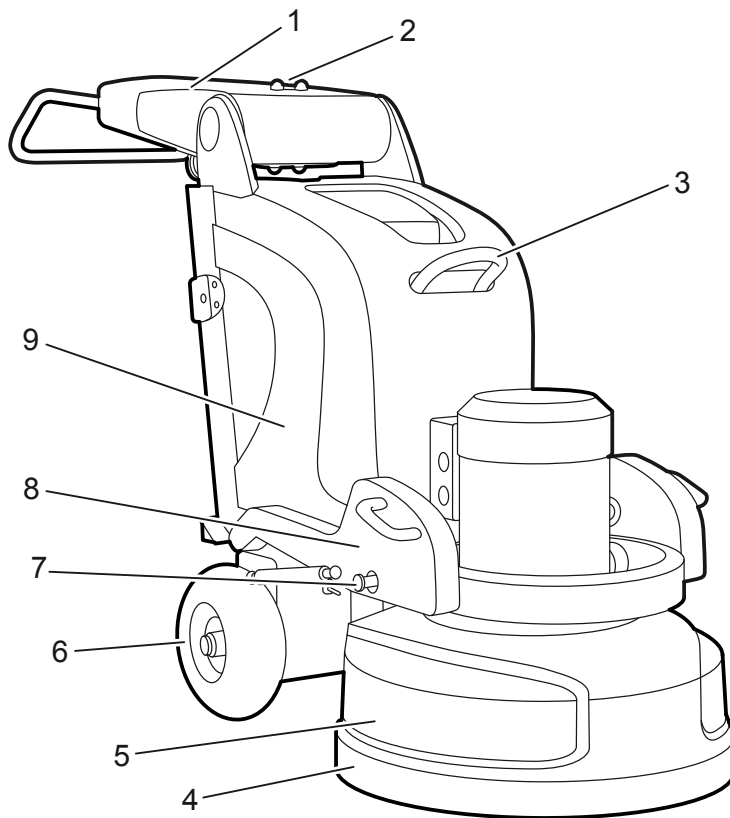
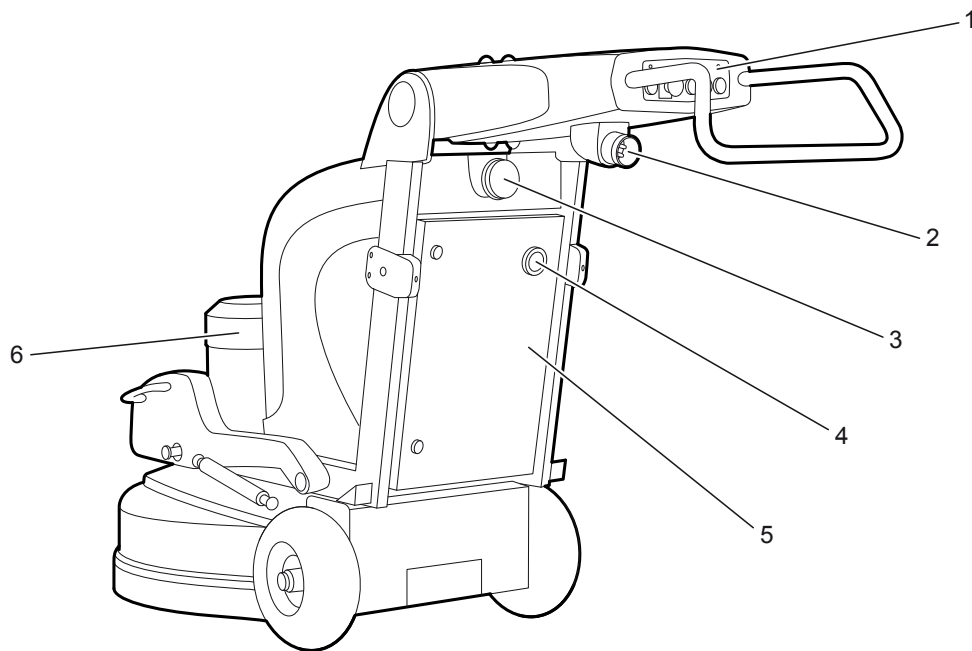

Figure 3-1 The front of the machine
Figure 3-2 The machine's rear
The machine is constructed from a number of main components, see Figure 3-1 on page 10 and Figure 3-2 on page 11. As it is equipped with four grinding discs, this means that it is balanced and easy to handle. It also provides more effective stripping with better grinding results. It also has an integrated weight system for adjusting the grinding pressure, which makes the machine perfect for those with high demands for versatility.
1. **Power** - Standby indicator: Indicates that the machine's functions have been activated. Shines with a green light when the start key (7) is turned to the right "On".
3. **Reset** - Resetting the electronics: If the machine experiences an error, it can be reset by pressing and holding the button in for two seconds. Any error code is shown on the display in the electrical cabinet, see Figure 3-2 on page 11.